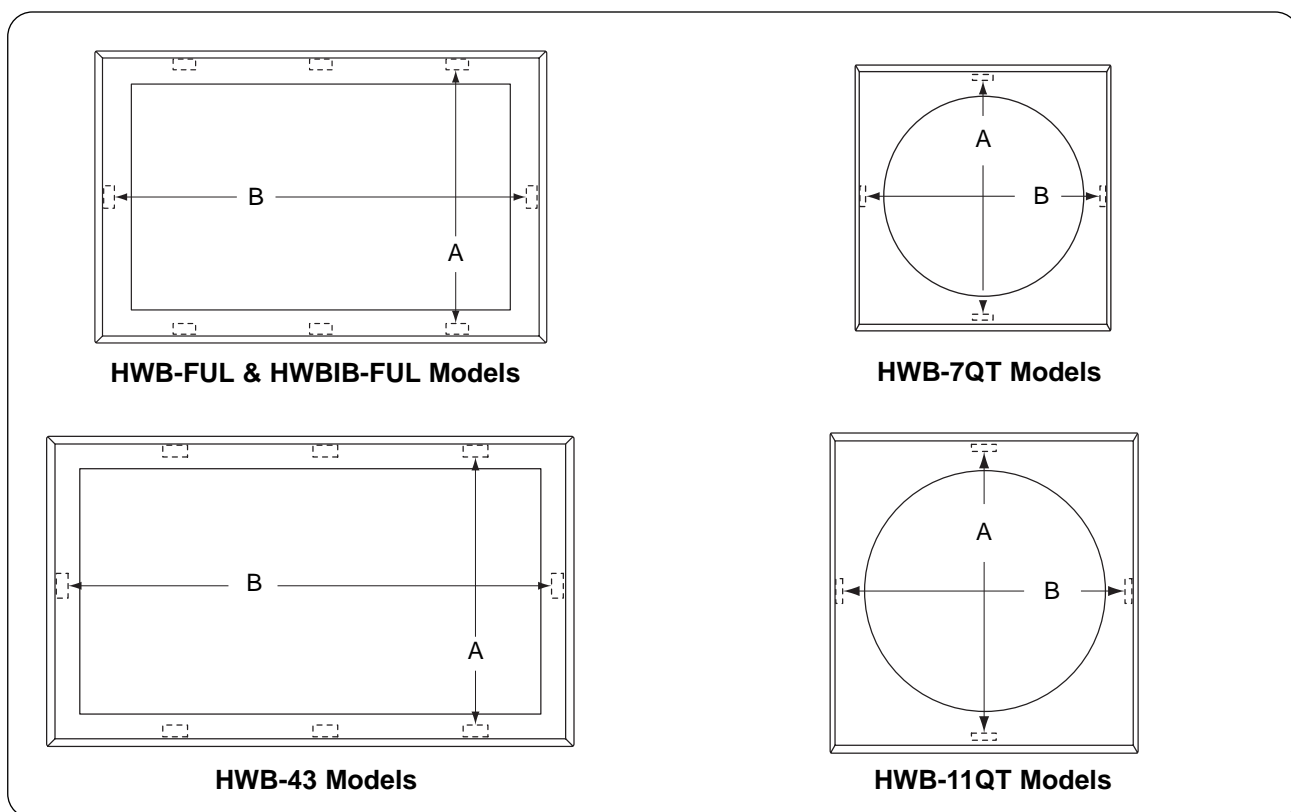

Figure 12. Combustible Countertop Mounting Flange Templates
1. Cut appropriate opening in countertop. (See Figure 12 for size requirements.)